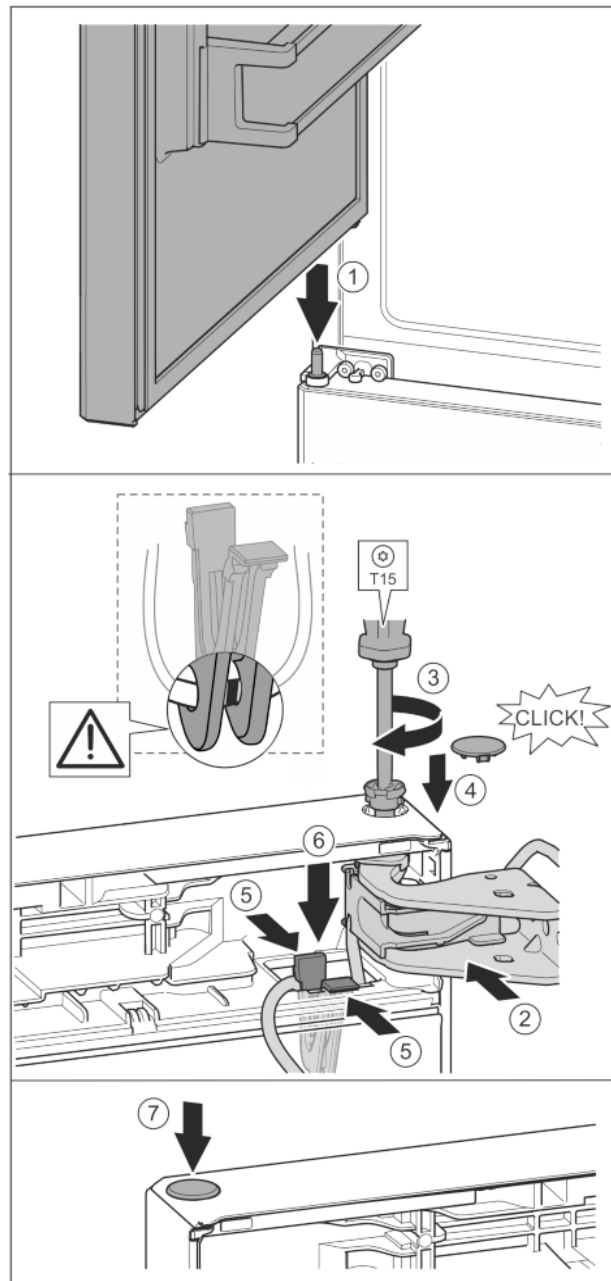

Fig. 35
- Place the upper door on the centre bearing pins Fig. 35 (1)
- Align the top of the door with opening in the bearing bracket. Fig. 35 (2)
- Insert the bolt and tighten with a T15 screwdriver. Fig. 35 (3)
- Fit the protective cover to protect the door: Insert the protective cover and check that it is attached to the door. If not, insert the bolt fully. Fig. 35 (4)
- ▶ Insert the holder with its cable into the opening. *Fig. 35 (5)*
- ▶ Press the holder downwards until the tab clicks into place. *Fig. 35 (6)*
- ▶ Insert the plugs. *Fig. 35 (7)*